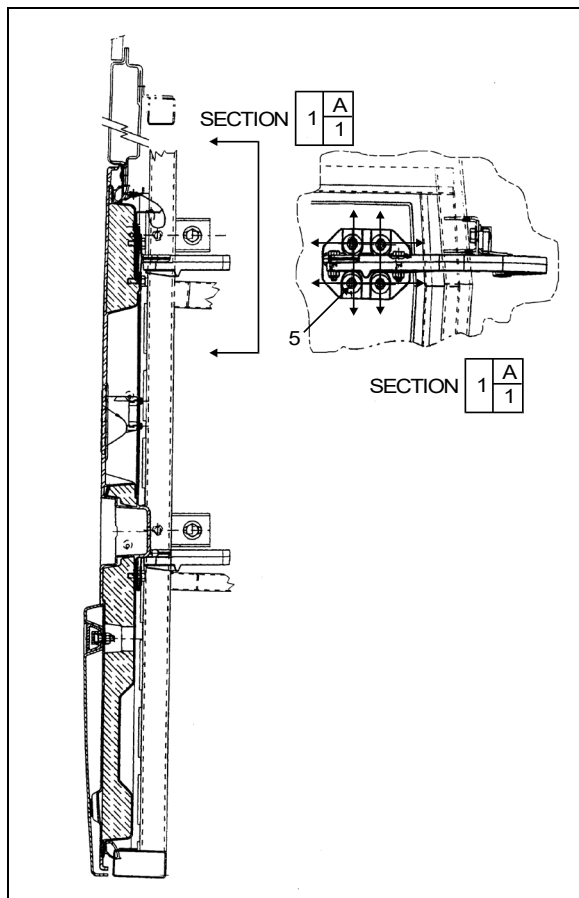

FIGURE 93: FRONT SERVICE DOOR
2. Loosen nut (2, Figure 93).
3. Move part (1, Figure 93), as close as possible to exterior of coach, so as to have enough clearance for proper door opening.
4. Tighten nut (2, Figure 93).
5. Loosen nut (3, Figure 93). Hinge allows the door to be shifted "IN or OUT".
6. Adjust door panel to have the same gap space as neighboring panels or refer to Figure 73 for specified gap space. Only if necessary, use the adjustment allowed by moving part 1, Figure 93.